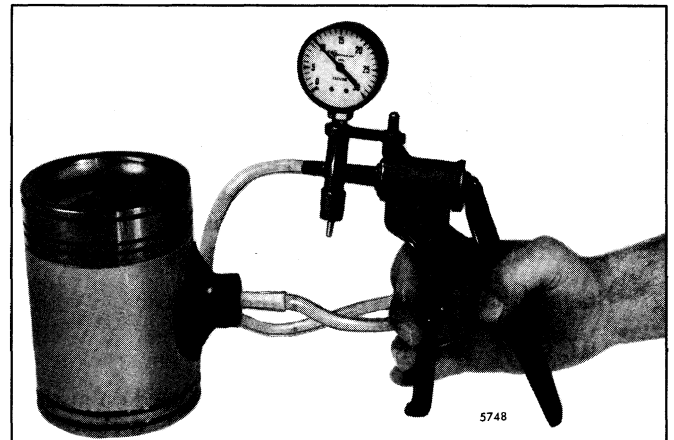

Fig. 19 - Checking Piston Pin Retainer for Proper Sealing using Tool J 23738 and Adaptor J 24629
10. One important function of the piston pin retainer is to prevent the oil, which cools the underside of the piston and lubricates the piston pin bushing, from reaching the cylinder walls. Check each retainer for proper sealing with leak detector J 23738 (Fig. 19) and vacuum cup J 24629. Place the suction cup over the retainer and hand operate the lever to pull a vacuum of ten (10) inches on the gage. A drop in the gage reading indicate air leakage at the retainer.